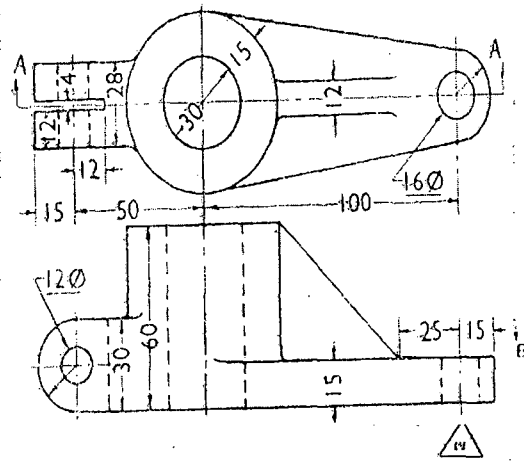

Fig.12.b
13.b Design a Milling fixture for milling the faces marked in the component shown in Figure 12.b 16